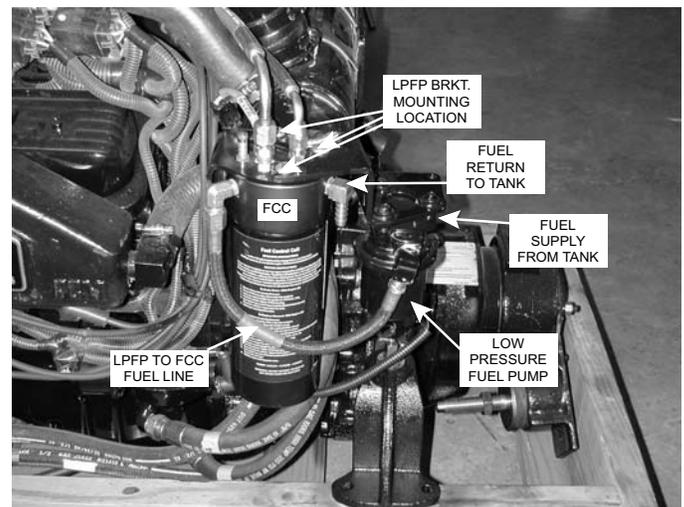

Figure 1-18 FCC/LPFP Mounting
42. From the kit, obtain the LPFP Bracket, and LPFP output fuel fitting (Figure 1-2, items 37, 45). Retaining all attaching hardware, remove the LPFP from the bracket, and install the LPFP onto the new LPFP Bracket. The output fitting of the LPFP will face port (see Figure 1-18).
43. Loosen, do not remove, the three (3) FCC attaching bolts. With the LPFP attached to the LPFP Bracket, slide the bracket slots onto the FCC attaching bolts. Tighten the bolts securely.